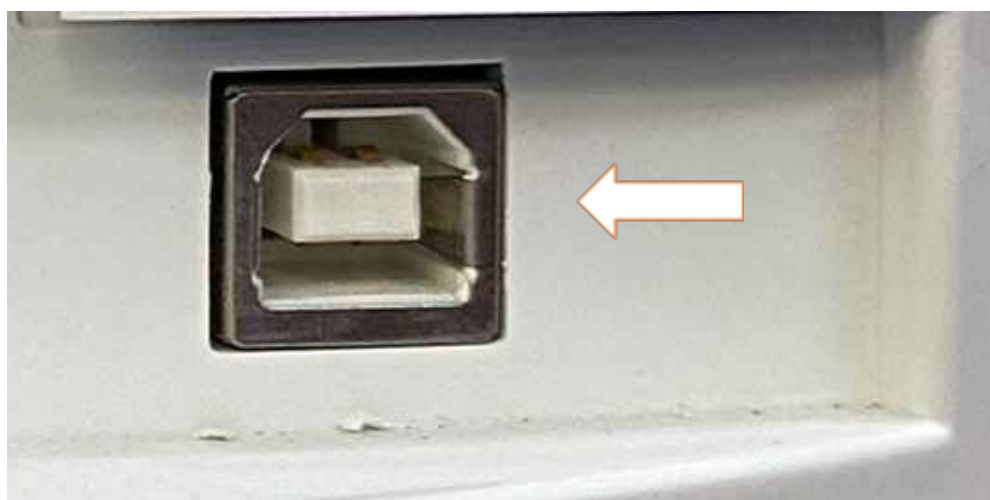

Figure V-32: “Safe Mode Boot” Button found on FastPrep-24 5G Rear Panel
4. Depress the “Safe Mode Boot” button adjacent to the USB Port (Figure V-32). Insert safety pin to depress this button while turning the unit to ON. The FastPrep-24 5G will start up in Safe Mode.